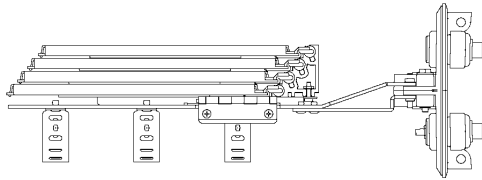

Figure 5
3.3 Tray & Splice Capacity Refer to Figure5
- (4) 4048-SSTP Splice Trays
- * (24) Single Fused Fibers
- (192) Mass Fused fibers